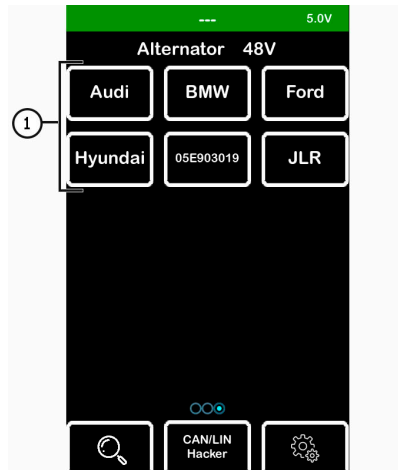

Figure 30
3. Next, open the tester menu and select the 48 V test mode, as well as the vehicle model corresponding to the alternator (see pos. 1, Fig.30).